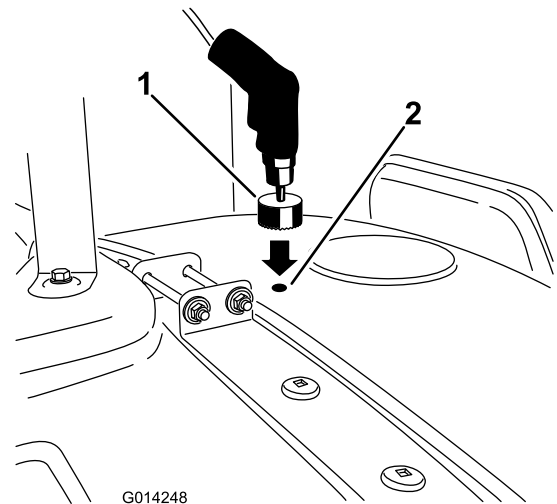

Figure 13
7. Go to the drill mark in front of the tank lid and repeat steps 4 through 6 for the forward hole (Figure 13).